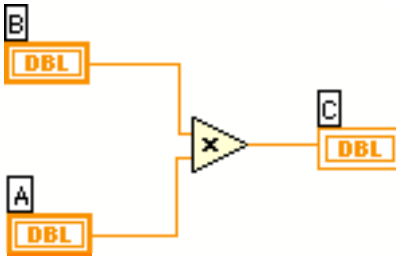

Figure 1-2. Program for Multiplying Two Numbers and Displaying the Result
LabVIEW® programming consists of drawing pictures that specify data dependencies. The LabVIEW® programming environment includes a large set of blocks to specify operations and a Wiring tool to connect them together. As an example, Figure 1-2 below shows the operation of multiplying two numbers and displaying the result.
A LabVIEW® program, called a virtual instrument (VI), is a two-window system. The code is in one window and the user interface (inputs and outputs) appear in a separate window. The program window is the diagram window, and the user inputs and outputs are in the front panel window. Figure 1-2 shows a sample program that would appear in the diagram window. The numbers are entered into the computer and displayed in the panel window shown in Figure 1-3. The two boxes on the left (labeled **A** and **B**) are controls, and the box on the right (labeled **C**) is the output or indicator. (The **X** and **=** are only displays showing the operation of the VI and not inputs or outputs.) The three boxes are associated with like labeled boxes in the diagram window shown in Figure 1-2.